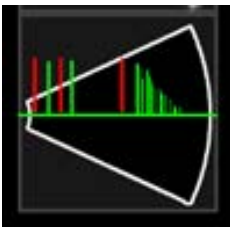

Figure 17: B-Scan Biometry Icon
- ② Select the [Save Frame] button and the frame will appear in the frame collector on the righthand side of the screen.
- ③ Select the [Tool] tab and then the [Caliper] tool to measure 4.50 mm from the eye's optic nerve to the Macula.
- ④ Select the B-Scan Biometry icon from the [Tool] menu located below the Caliper icon. Refer to Figure 17.